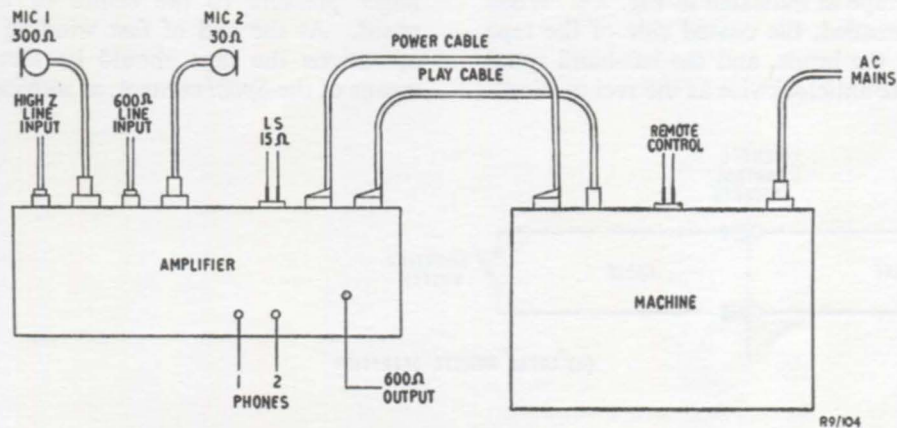

Fig. 9.1. Connecting Diagram
3. Connect the *play*, *power* and *mains* cables as indicated in Fig. 9.1. (Wiring details of the *play* and *power* cables are given in Figs. 20 and 21.)
4. Connect the required input and output circuits, i.e., microphones, lines, headphones and loudspeaker. (Fig. 9.1.)